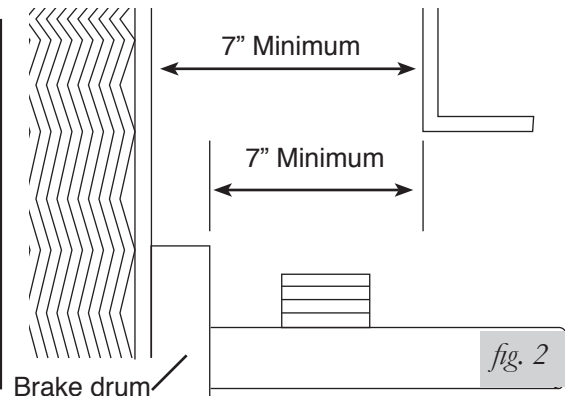

fig. 2
2. Before proceeding with installation, measure the opening from the frame rail to the brake drum or the tire, which ever is closest to frame. The measurement must be a minimum of 7 inches (fig. 2). If spacing is good, remove rear wheels and support frame with safety stands.